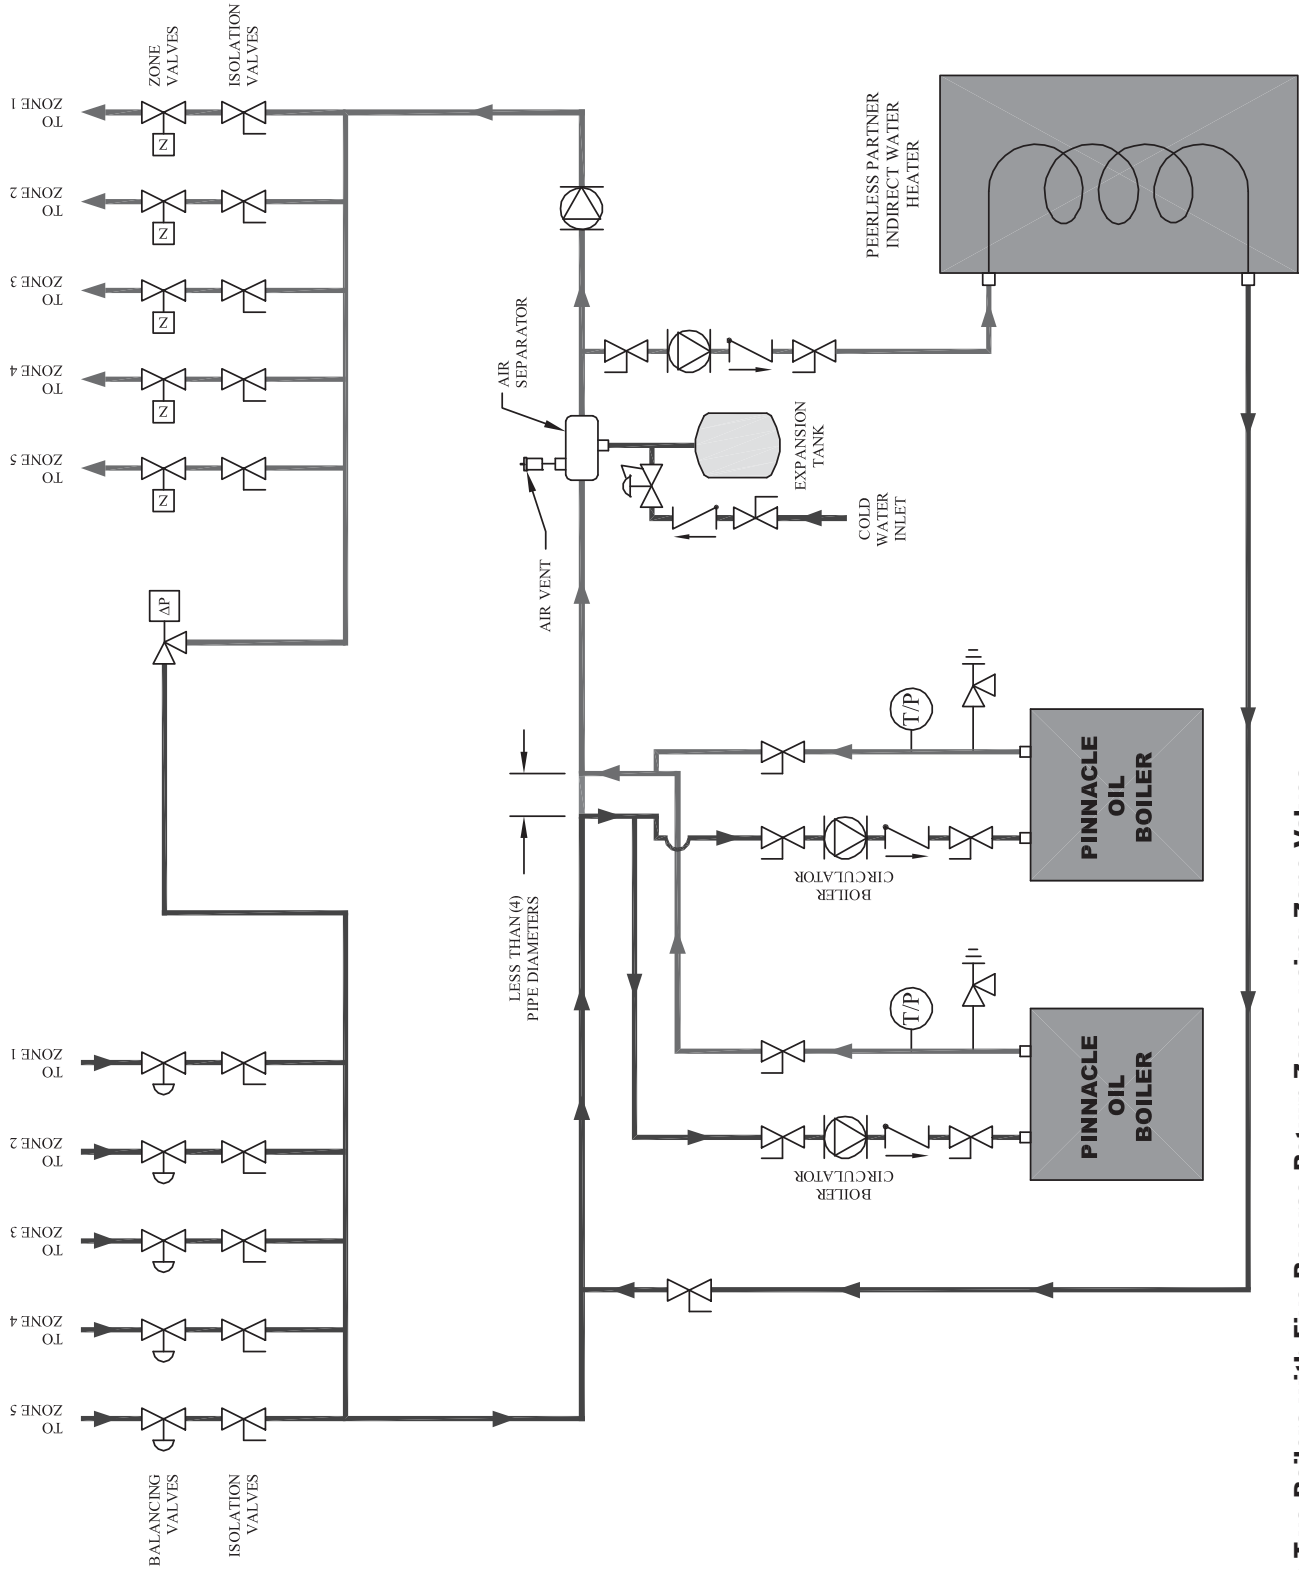

Figure 4.7: Two Boilers with Five Reverse Return Zones using Zone Valves
5. *Figure 4.7:* This illustration shows a system in which zone valves are used in place of zone circulators. Notice that this system utilizes reverse return piping (where the first zone supplied is the last zone on the return), which makes it easier to balance the system. If the heating loops are very different in length, balancing valves, shown on the return side of each loop, are required.